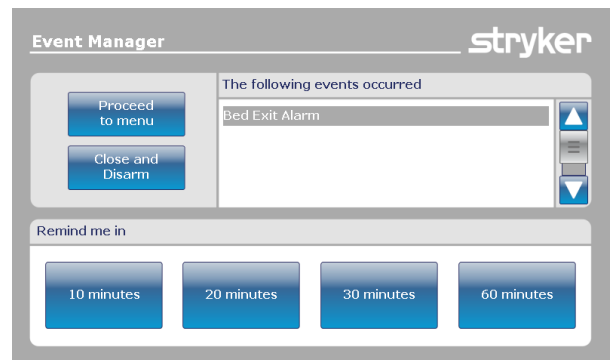

Figure 10.2
- The Event Manager window appears as shown in Figure 10.2